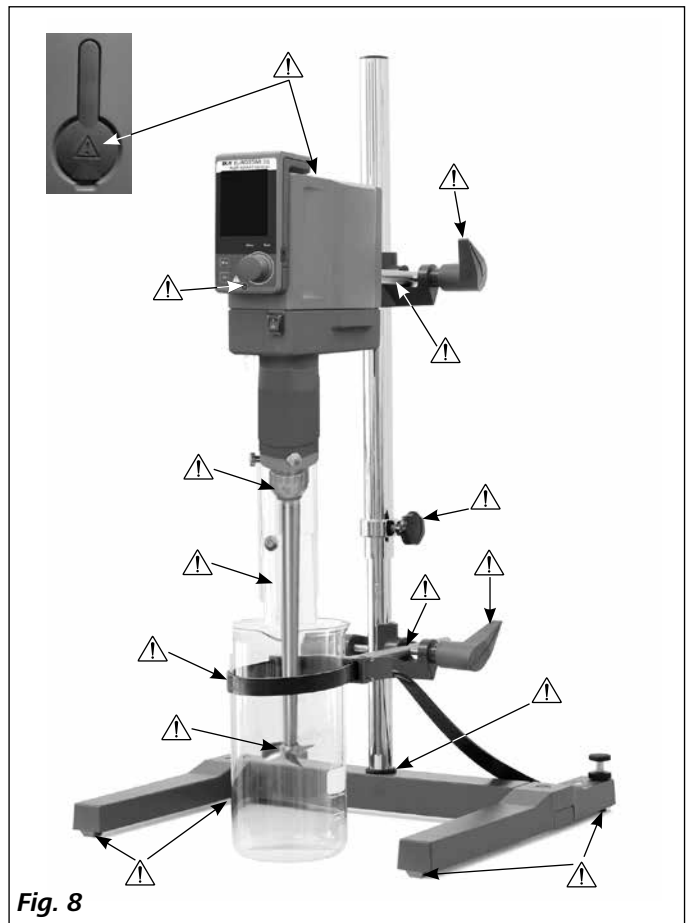

Fig. 8
**DANGER** Please pay attention to the dangerous parts of the equipment in **Fig. 8**.